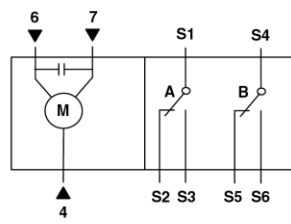

Figure 27. GDE34x Wiring Diagram
1. Connect all wires per Figure 27.